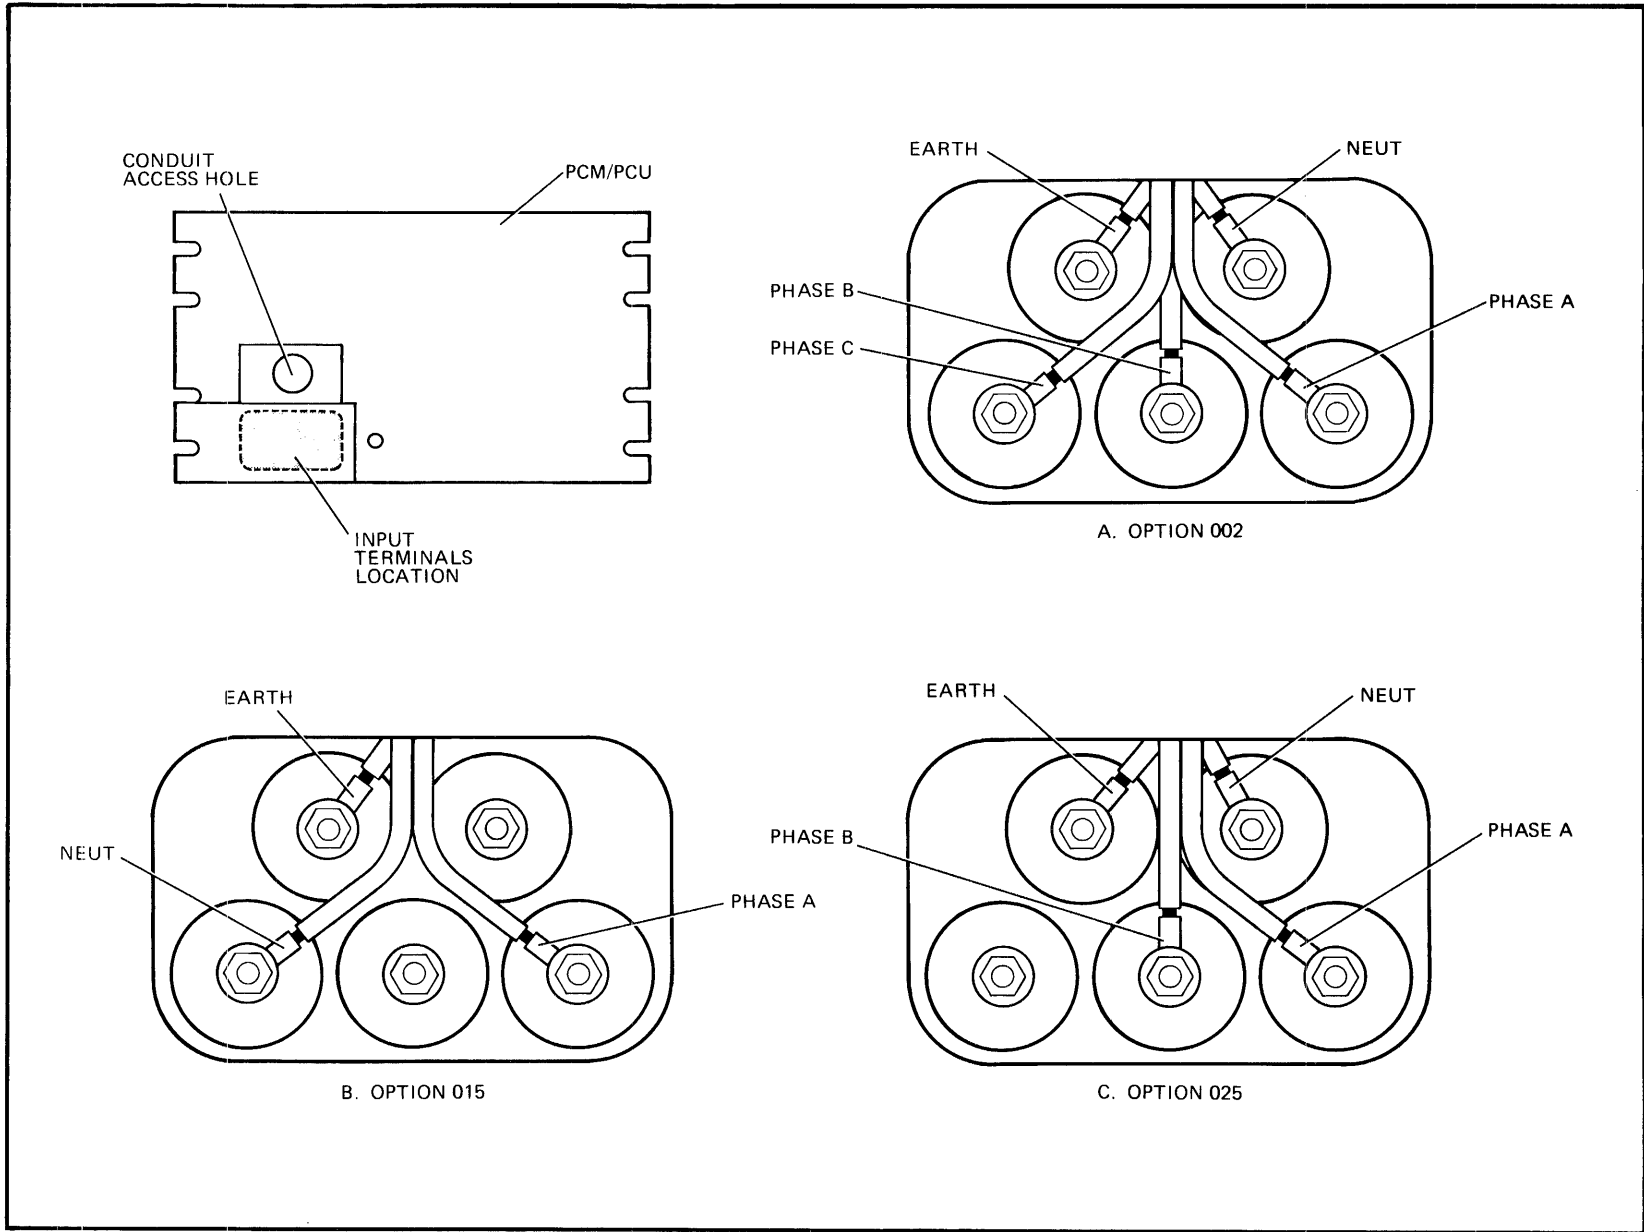

Figure 2-7. Power Input Connections to PCM or PCU
- c. Make power input connections to the PCM in accordance with figure 2-7.
- e. (Option 002 only). Using a suitable voltmeter, verify 208 volts ac between each pair of phases (A, figure 2-7) and 120 volts ac between each phase and neutral.
- f. (Option 015 only). Using a suitable voltmeter, verify 230 volts ac between phase A and neutral (B, figure 2-7).
- g. (Option 025 only). Using a suitable voltmeter, verify 240 volts ac between phases A and B (C, figure 2-7) and 120 volts ac between each phase and neutral.
- k. Make power input connections to the PCU in accordance with figure 2-7.
- q. (Option 002 only) Using a suitable voltmeter, verify 208 volts ac between each pair of phases (A, figure 2-7) and 120 volts ac between each phase and neutral.
- r. (Option 015 only) Using a suitable voltmeter, verify 230 volts ac between phase A and neutral (B, figure 2-7).
- s. (Option 025 only) Using a suitable voltmeter, verify 240 volts ac between phases A and B (C, figure 2-7) and 120 volts ac between each phase and neutral.